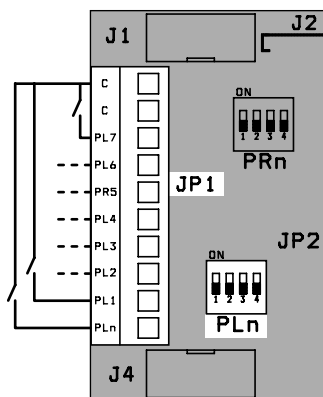

fig.3a
- Connect calling buttons to the input terminals of the board XT2928U as shown in fig.3a - 3b.